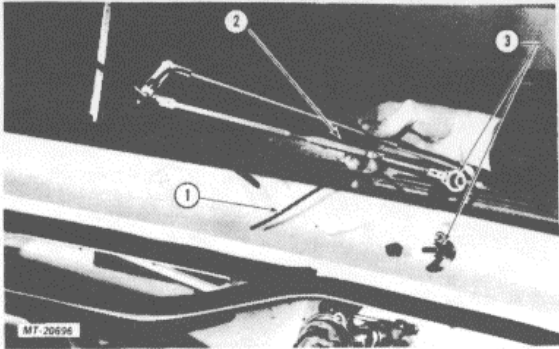

Fig. 30. Removing Windshield Wiper Arm
2. Remove cap nut and detach windshield wiper arms (Fig. 30).